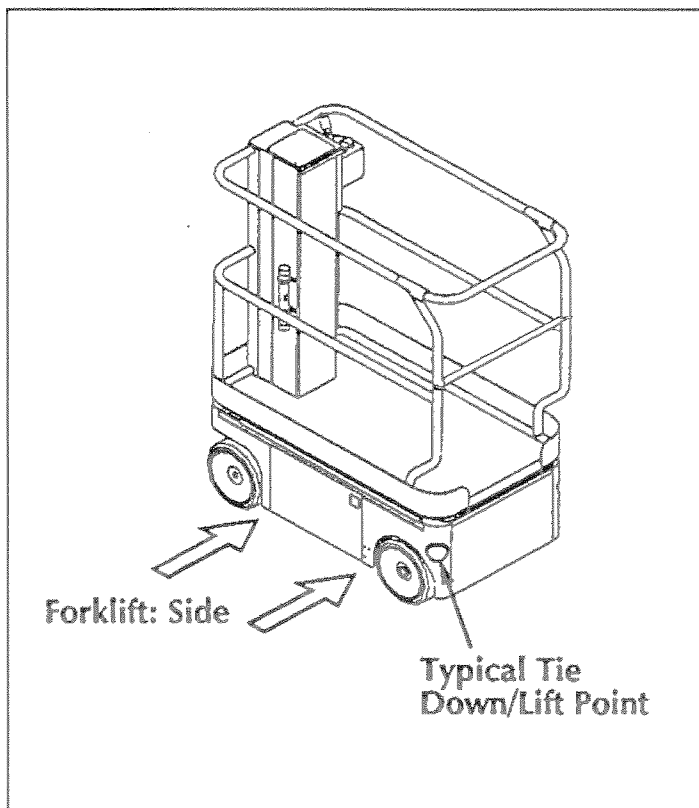

Figure 2-3: Transporting Machine
Forklift from the side by lifting under the Chassis (Figure 2-3).
Secure straps to chassis tie down/lift points **only** (Figure 2-3).
2. Secure the work platform to the transport vehicle with chains or straps of adequate load capacity attached to the chassis tie down points (Figure 2-3).